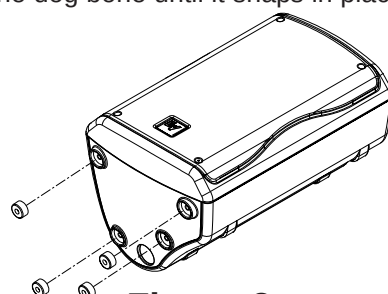

Figure 2:
2. Remove the four rubber feet from the bottom of the ZX1-90 enclosure (Figure 2).